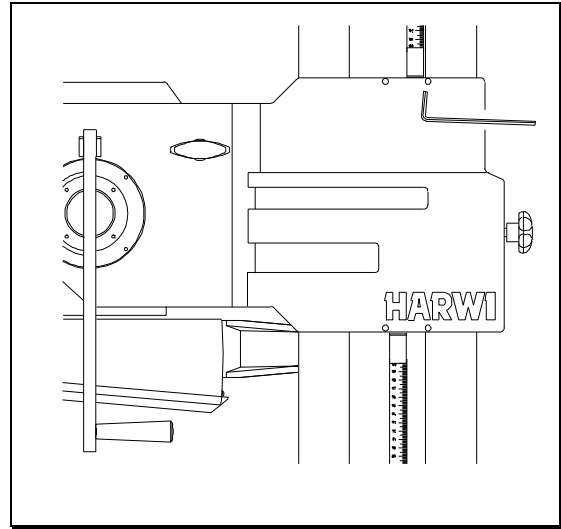

Figure 24
- 4 Adjust pointer of the measure scale of the midway fence at the right side of the carriage at 0 (Figure 24).